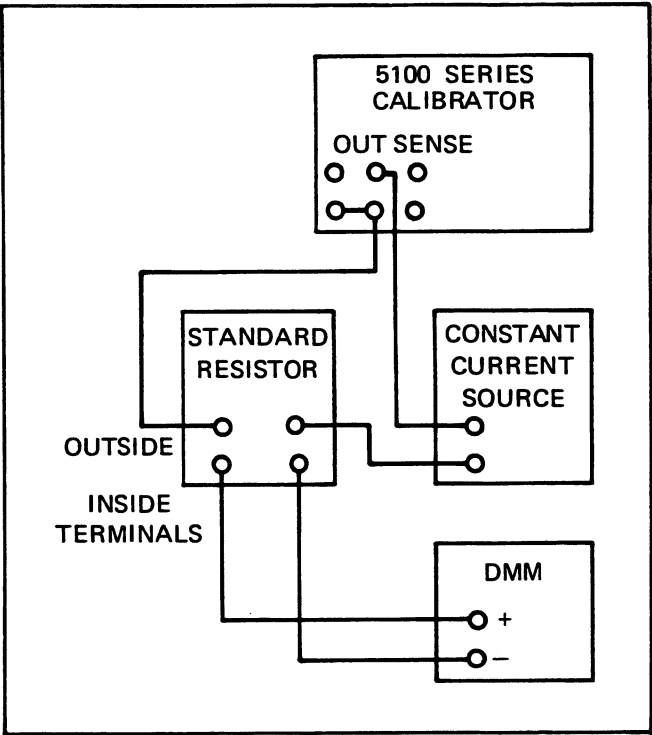

Figure 4-9. Current Source Transfer Connections
- 1. Connect the equipment as shown in Figure 4-9.